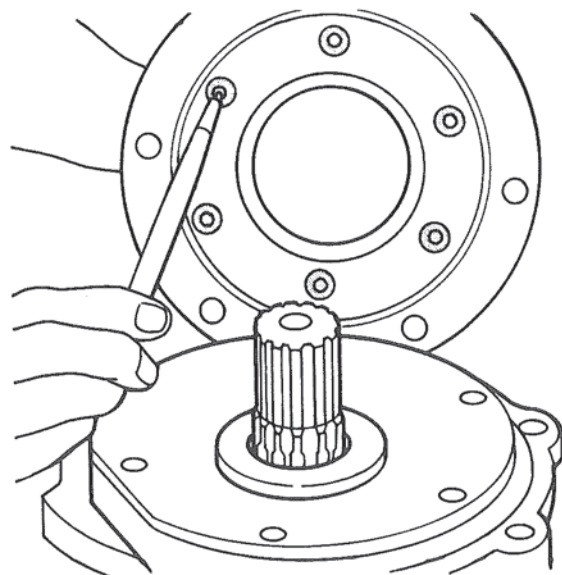

Figure 21. Inspecting and Assembling Pinion Cage Assembly.
1. Inspect the lube oil strainer carefully. Remove all dirt or other contamination and replace screen if holes are detected. Assemble in place and align holes. Figure 21.
B. The front end of each pinion pin contains a pressure lubrication oil passage. Figure 21. These holes should be open and free from contamination.
A. Check pilot diameters shown in Figure 21 and remove all burrs.